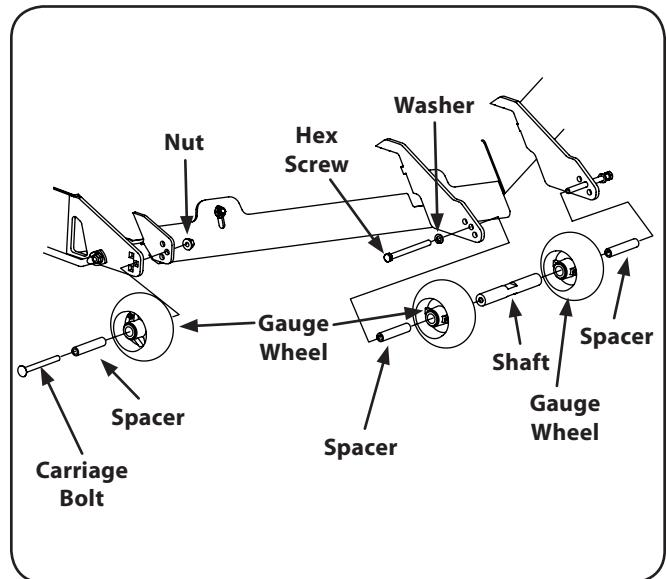

Figure 6-10
2. Remove the lock nut securing one of the outer front gauge wheel shoulder screws to the deck. Remove the gauge wheel and shoulder screw. Refer to Fig. 6-10.